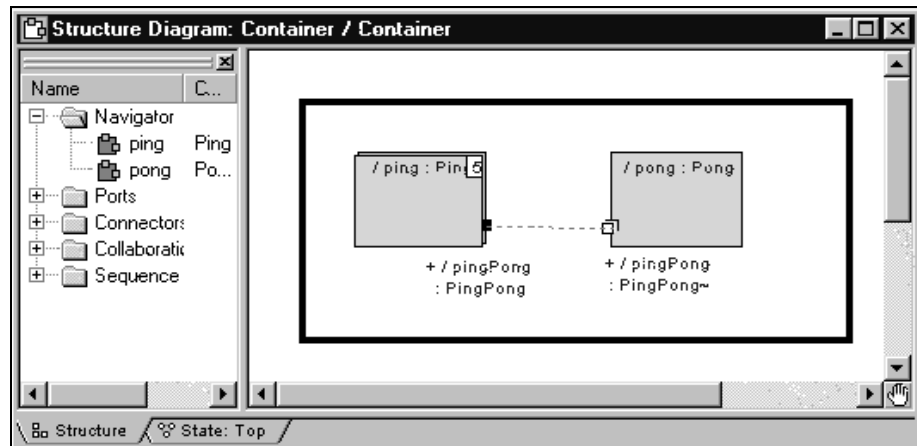

Figure 17 Creating connectors between ports
3. Connect the pingPong port on the Ping capsule to the pingPong port on the Pong capsule as shown in Figure 17.